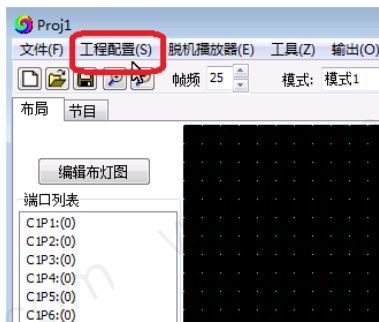

Figure 2
- 1.3. Click on "Online Code", as shown in Figure 2.